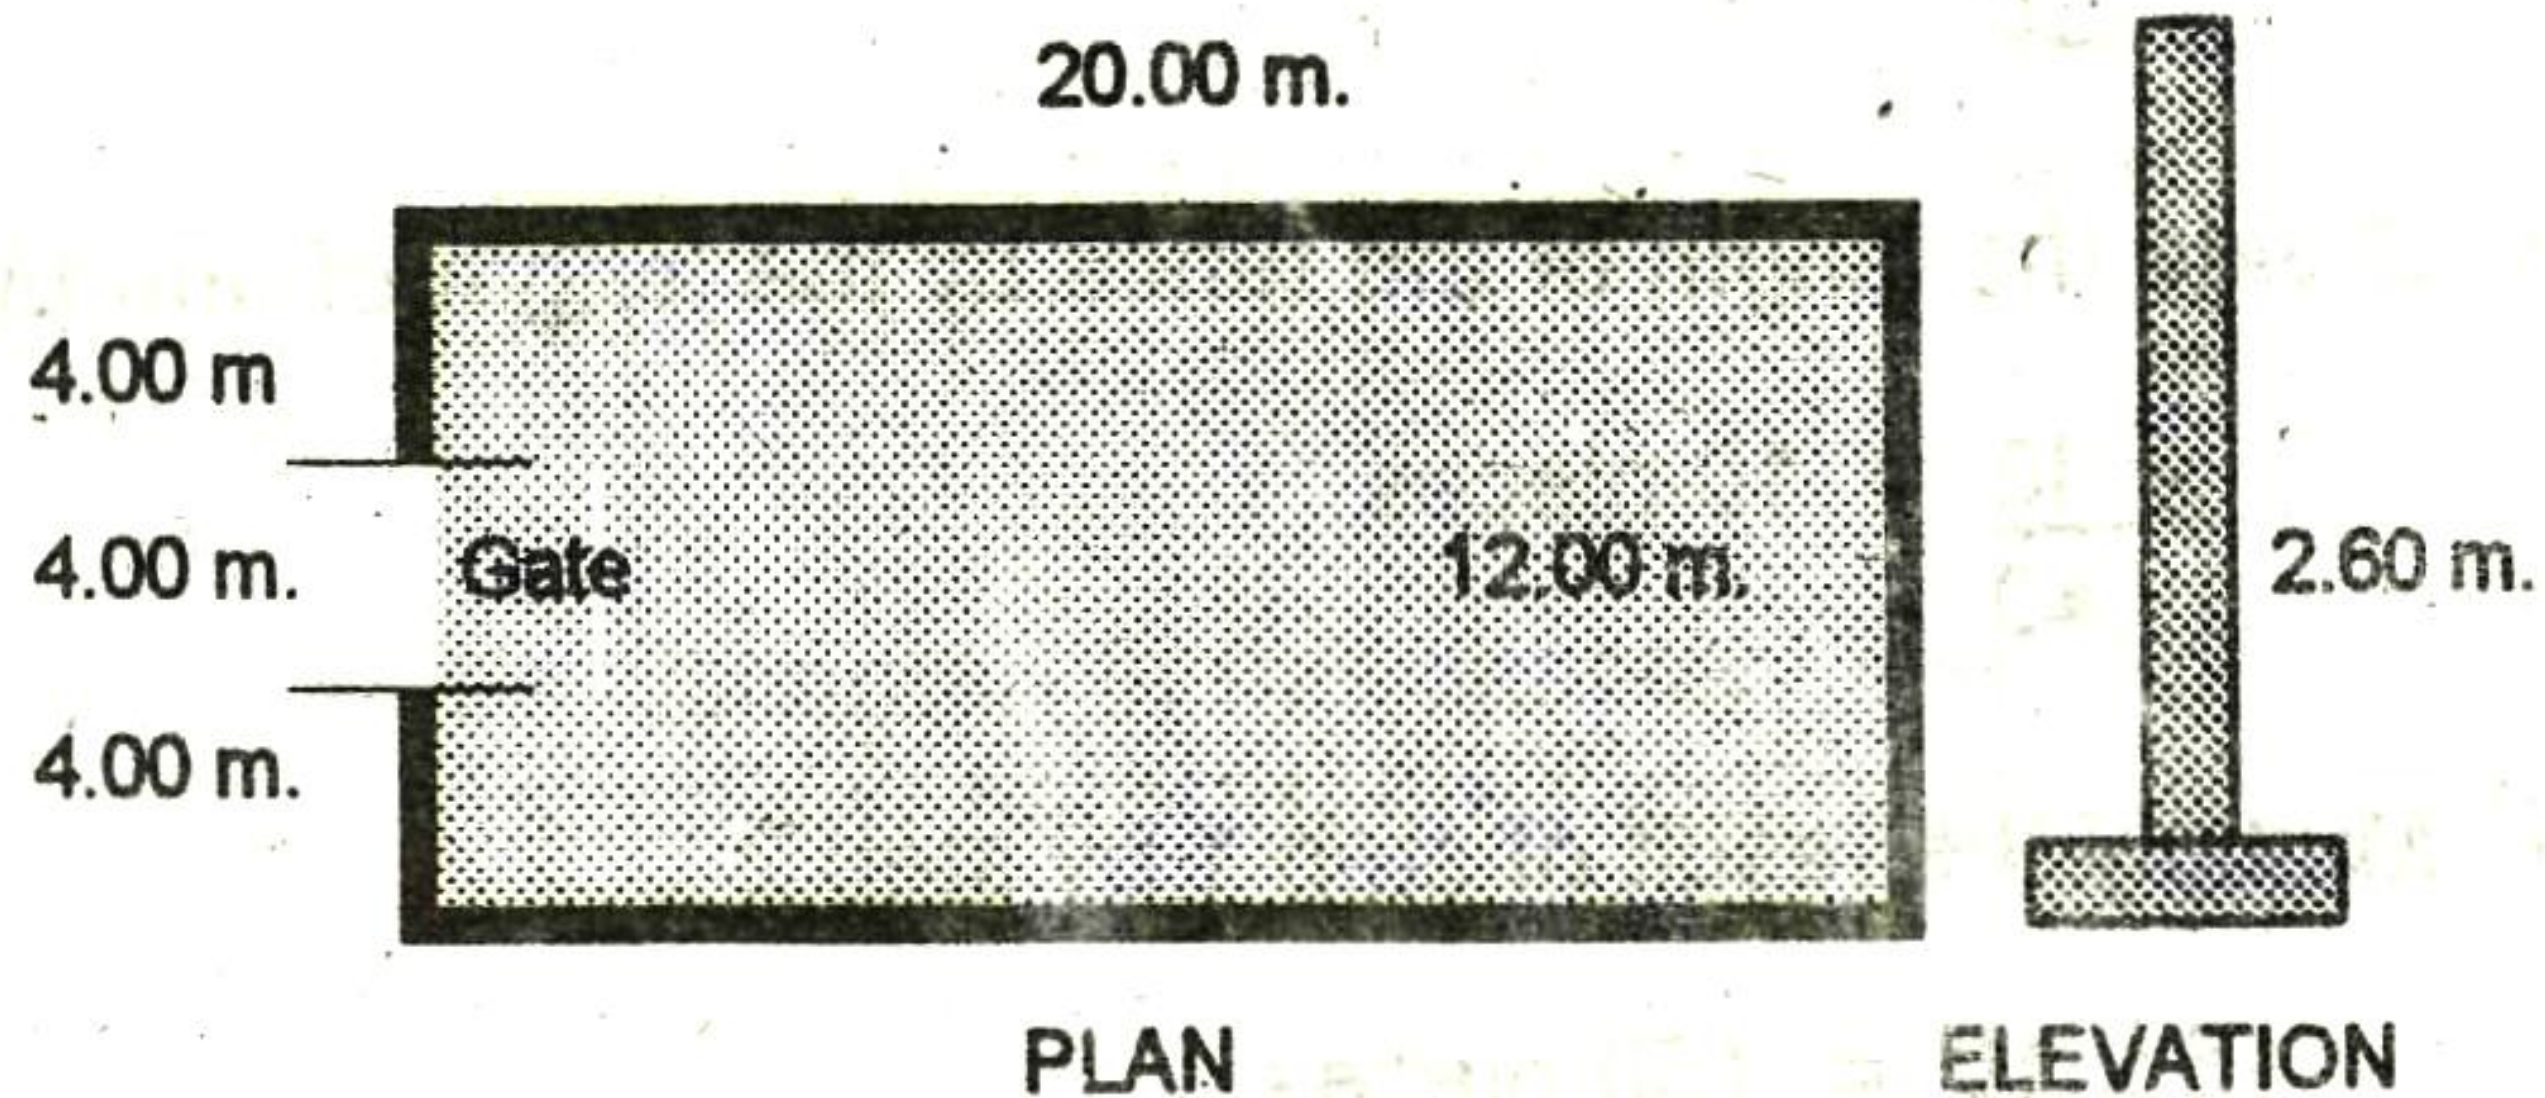

FIGURE 2-4 CHB FENCE
From the following Figure 2-4, find the number of 4" x 8" x 16" concrete hollow blocks to construct the fence.
2. Take note that in the above example, we computed the number of hollow blocks without posts. Suppose that Figure 2-4 was provided with the necessary posts as indicated in Figure 2-5, in this case, the area covered by the post will be subtracted from the total area of the wall, then solve for the CHB adopting the area method for simplicity of the process.